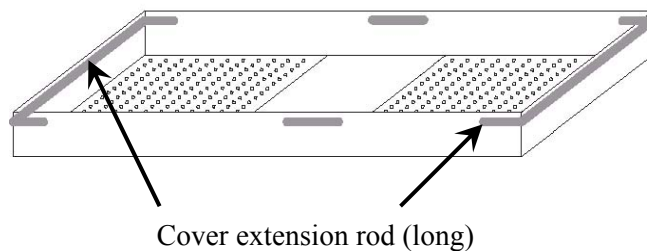

Figure-3
- ⑤ Set cover extension rods on collar cover. (long 2 rods) (Figure-3)